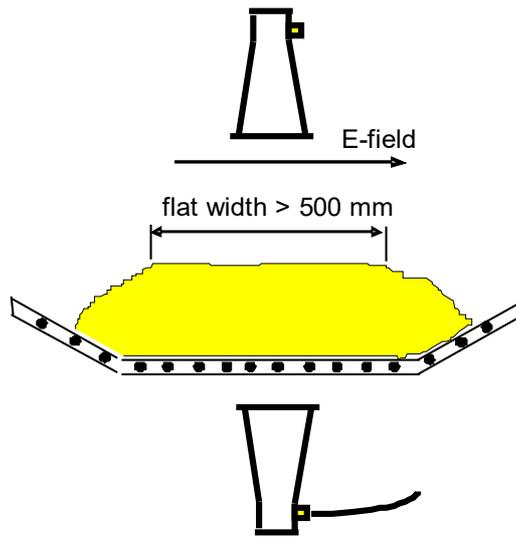

Figure 4-13:
Typically, the horn antennae and the radiometric measuring path are installed at a 90° angle to the material flow. Whether oblique transmission is necessary and in which angle the antennas should be mounted has to be clarified before planning the project. The angle (see Figure 4-13) will be specified by Berthold Technologies.
If the conveyor belt is reinforced by metal ropes in the conveying direction, the antennas have to be mounted such that the electric field (E) runs at a 90° angle to the ropes. The connection socket of the antenna cable faces the same direction as the electric field, see Figure 4-13 and 4-14.